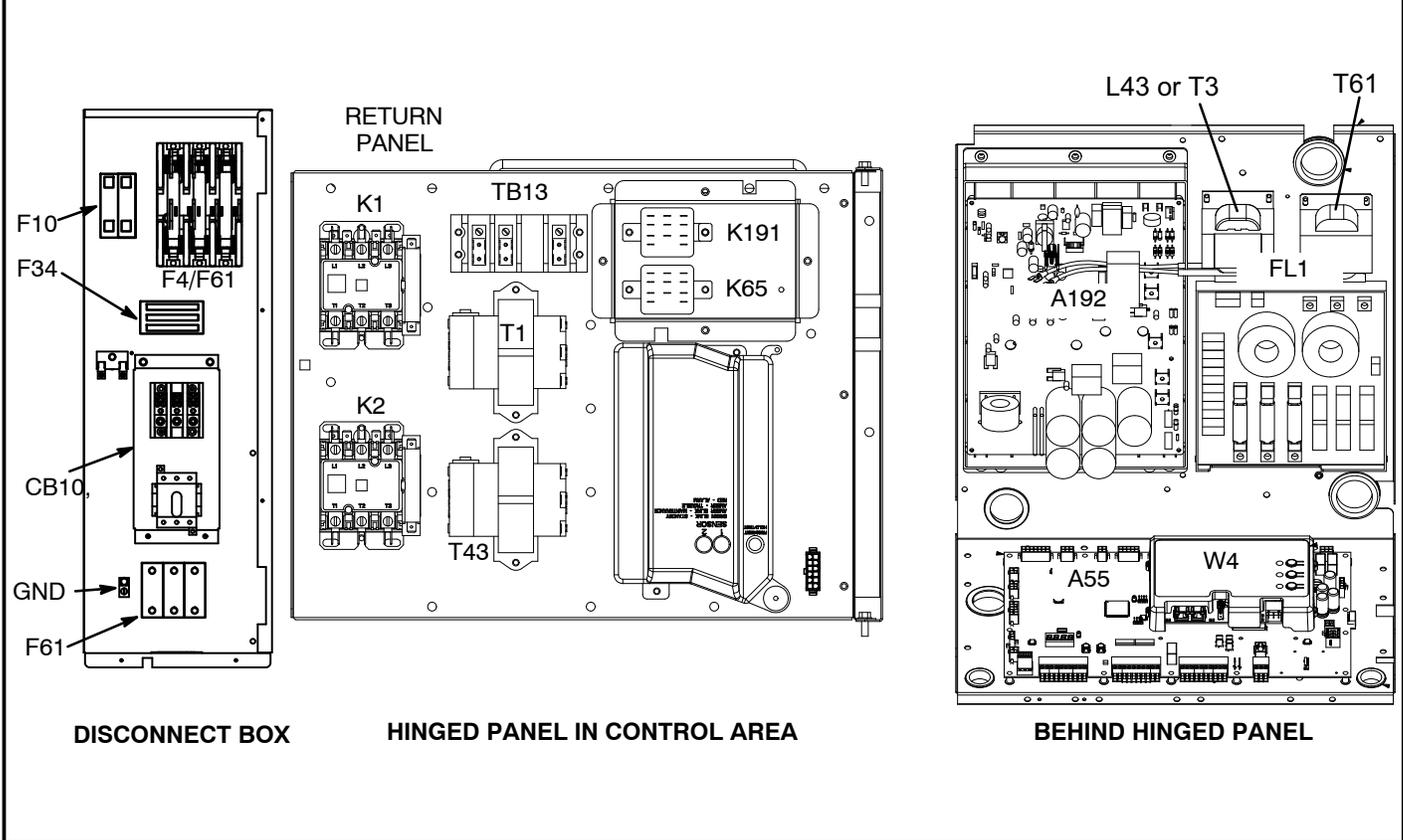

FIGURE 2
LGM control box components are shown in figure 2. The control box is located in the upper portion of the compressor compartment.
All LGM (J) voltage units use transformer T3. The auto voltage to 230VAC transformer is mounted in the control box behind the hinged panel to the right of the A192 Inverter for Compressor Circuit 1. See Figure 2. The transformer has an output rating of 0.5A. T3 transformer supplies 230 VAC power to combustion air blower motor (B6).